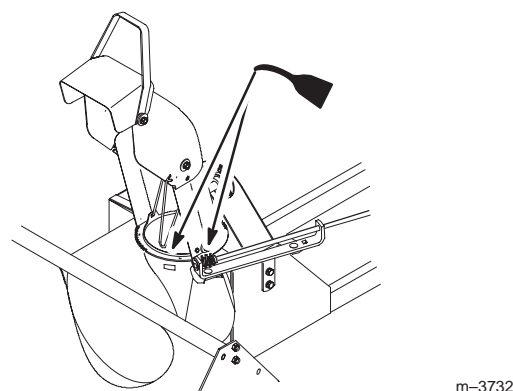

Figure 40
3. Place a few drops of oil on the discharge chute rotator shaft and discharge chute mounting (Fig. 40).